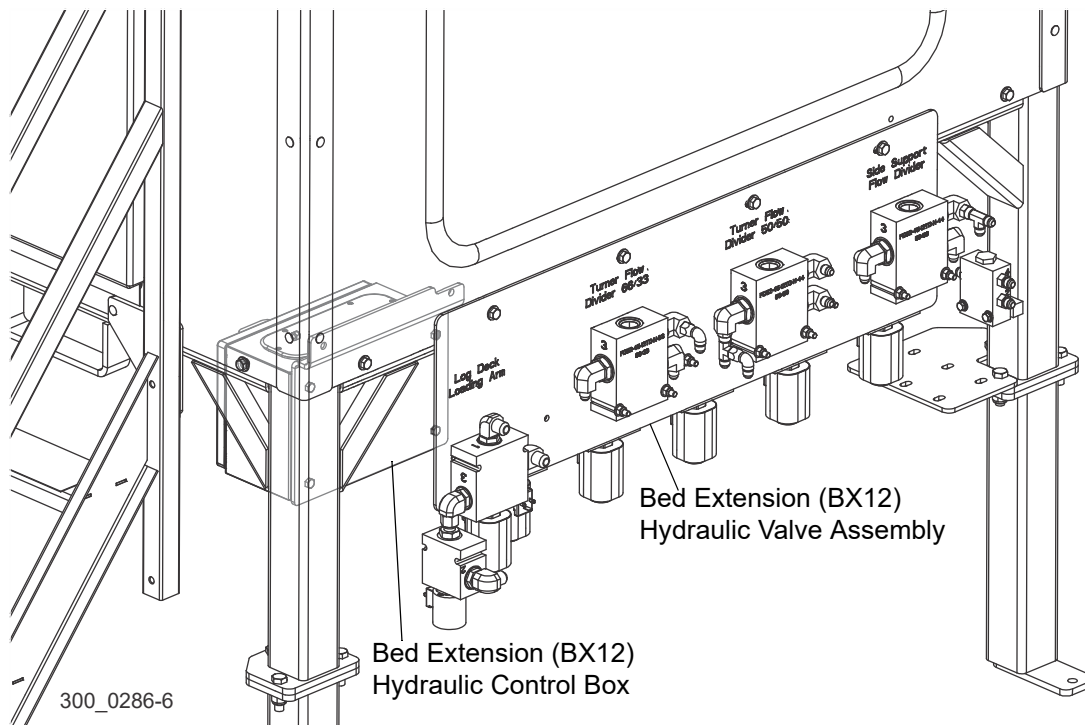

FIG. 3-33
1. Install the bed extension hydraulic control box and valve assembly to the operator station, as shown in Figure 3-33.
See Figure 3-33.